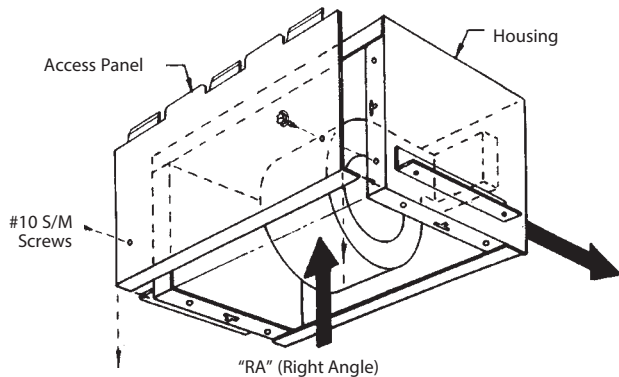

FIGURE 24: "RA" (RIGHT ANGLE)
Note: As a standard, RA / TD units are furnished with a Right Angle (RA) discharge as shown in Figure 24.
1. Disassemble the access panel from the housing by removing the two #10 sheet metal screws and then removing the panel by pulling it towards the housing opening as shown in figure 24.